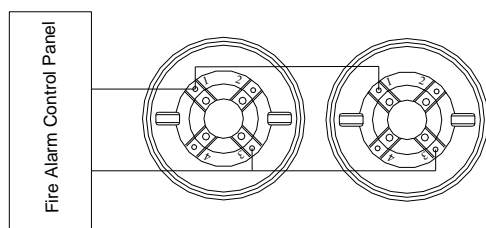

Fig. 5
- ✧ The sounder base can also be directly connected into fire alarm system. In case of a fire alarm, it will generate alarm sound according to the cause and effect setup of the system. System connection is shown in Fig. 5.